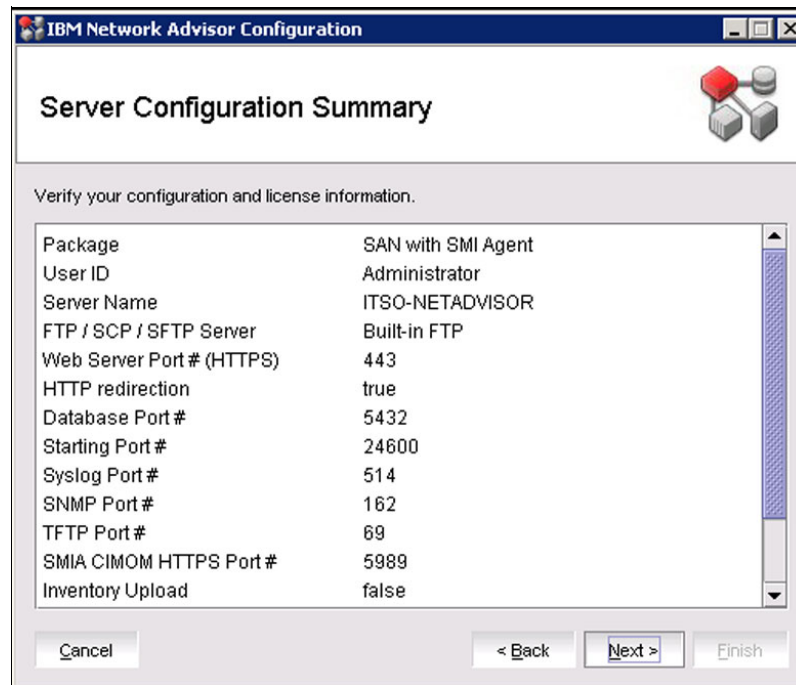

Figure 4-36 Server configuration summary window
16. The Server Configuration Summary window opens, as shown in Figure 4-36. Review the details in the window. If you are satisfied, click **Next**.